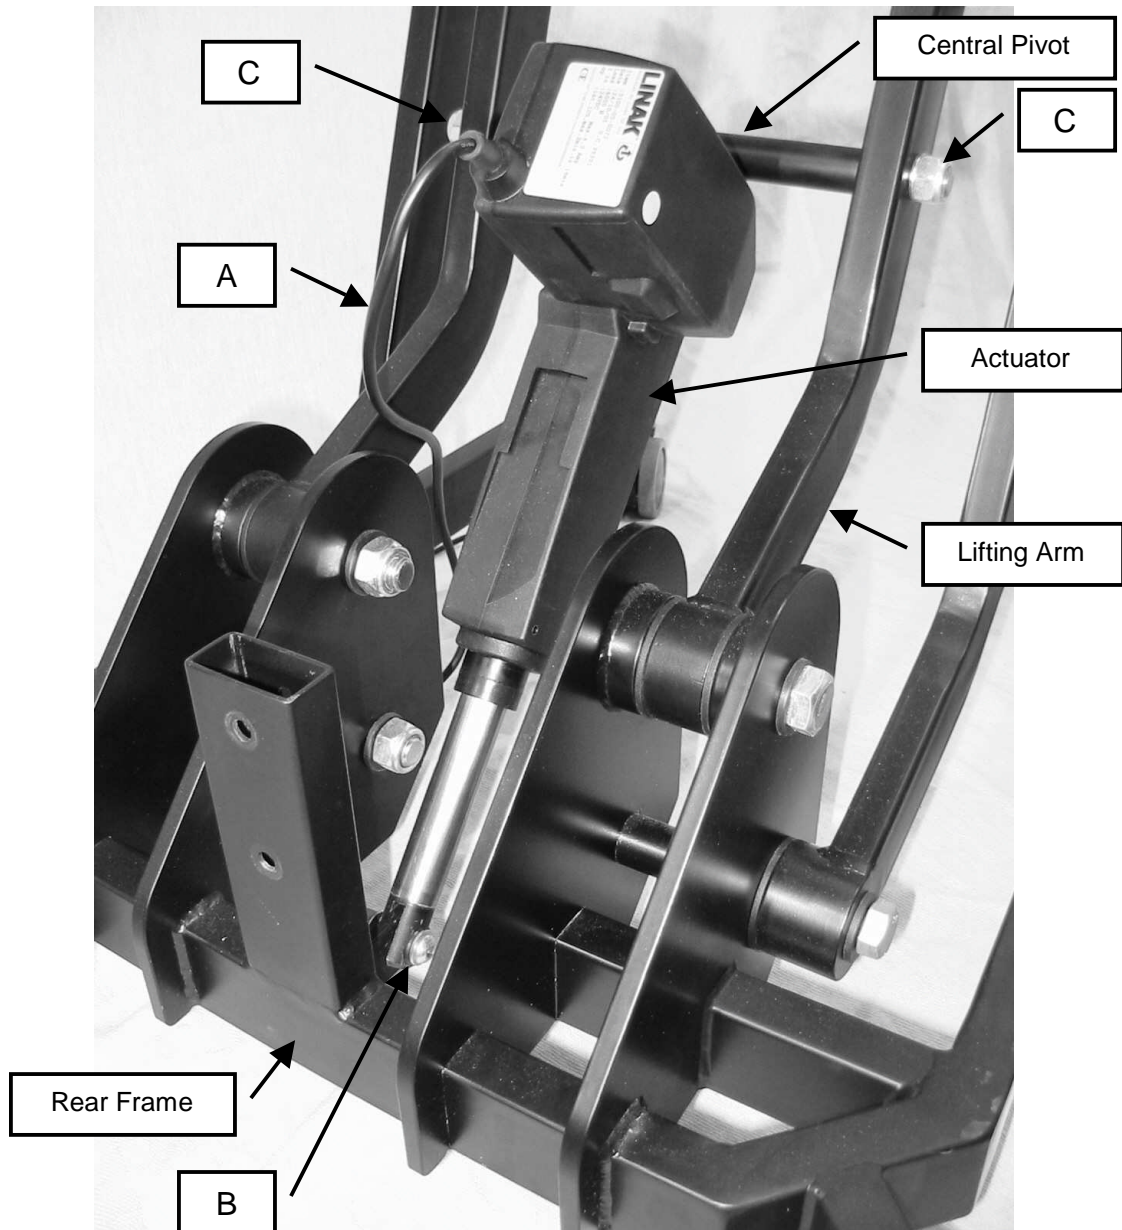

Fig 10
The lifting actuator is fitted between the lower rear frame and the lifting arms. (See Fig 10 below).
- 3) Disconnect the actuator supply lead from the controller and remove any fixings from the lead so that it is free of the frame. See "A" on fig 10.
- 4) Using a 17mm spanner and 7mm hexagon key remove the nut, washers and seat screw from the actuator mounting that is attached to the rear frame. See "B" on fig 10.
- 5) Using two 19mm spanners remove the nuts; washers and central pivot from the actuator then withdraw the actuator from the frame. See "C" on fig 10.